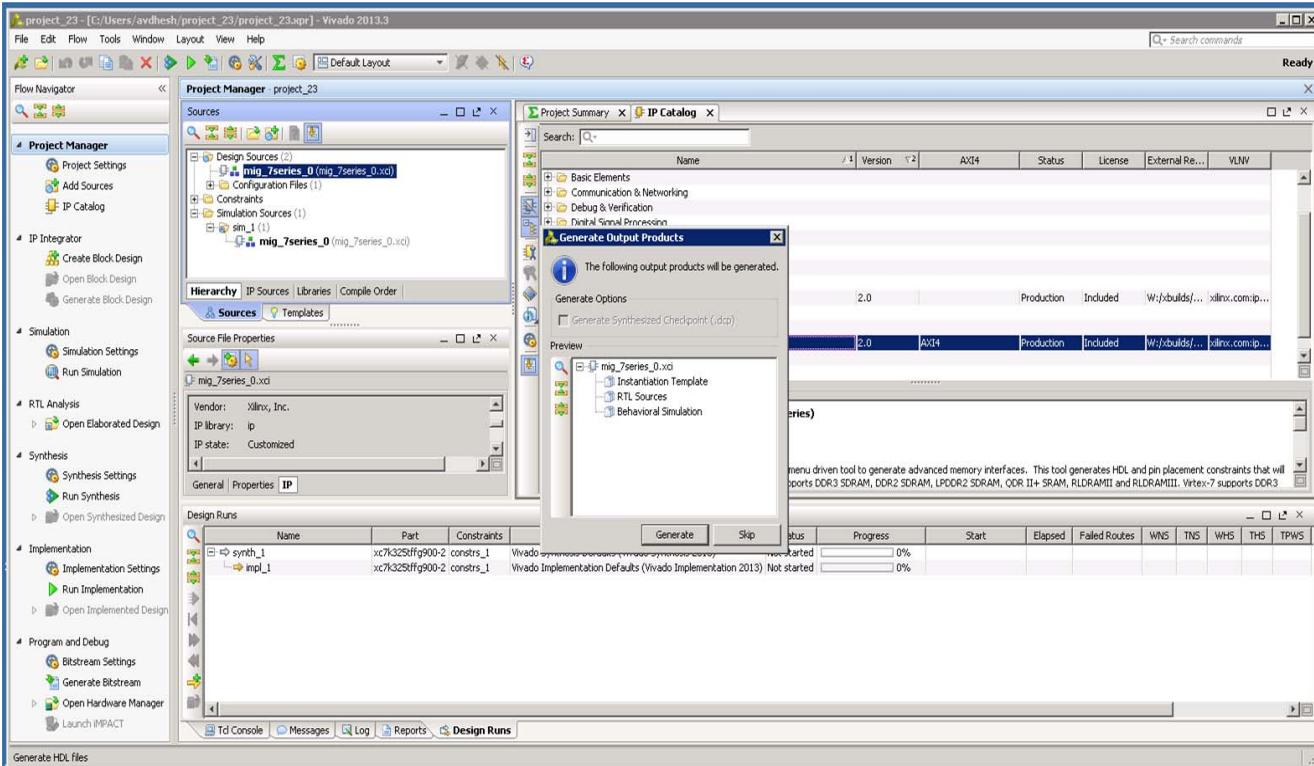

Figure 2-33: Generate Window
- Clicking the **Generate Output Products** option brings up the Manage Outputs window (Figure 2-33).